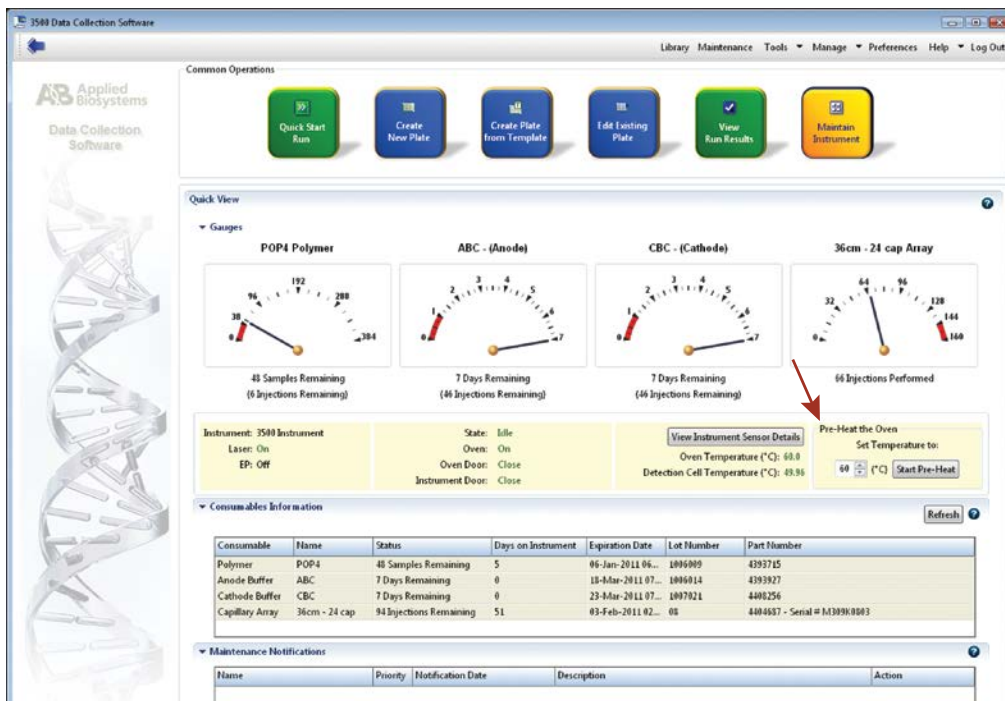

Figure 2. The Dashboard.
1. Open the 3500 Data Collection Software. The Dashboard screen will launch (Figure 2). Ensure that the Consumables Information and Maintenance Notifications are acceptable.